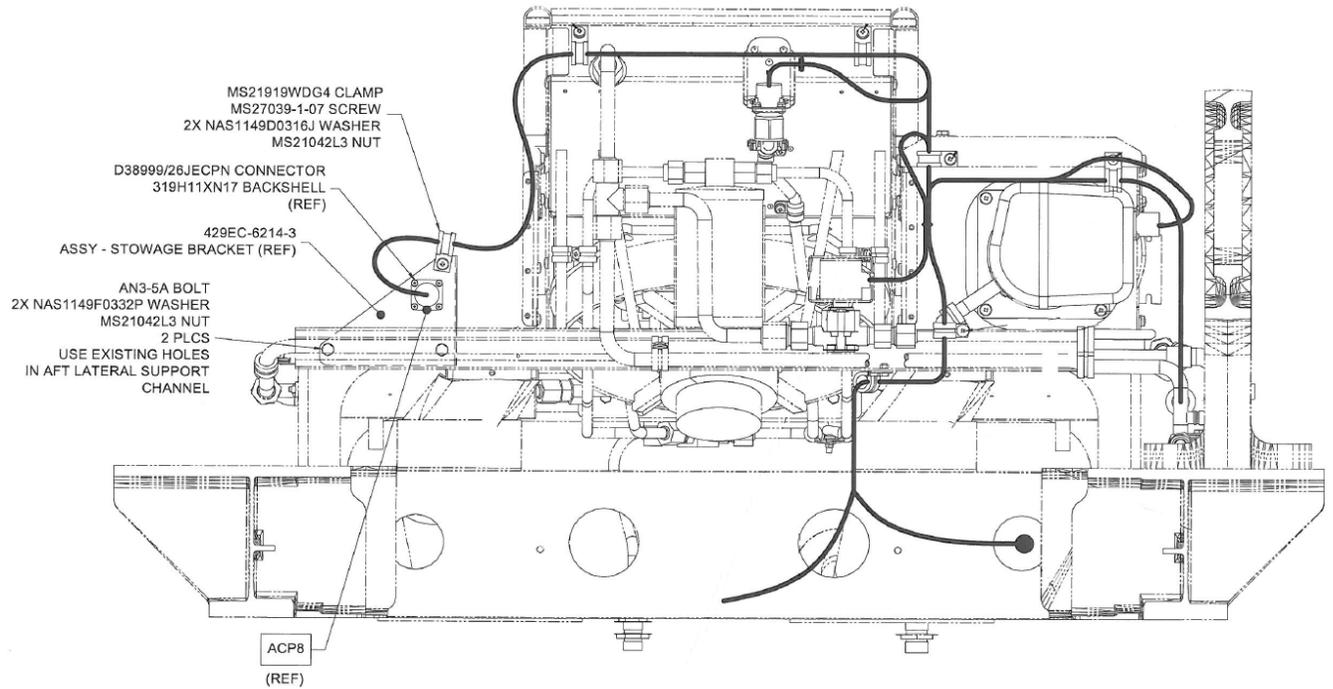

Figure 16: LH Aft Evap Connector ACP8 Stowage Bracket Details
7. Install Left Aft Evap Stowage Bracket 429EC-6214-3. See Figure 16. Plug ACP8 into Stowage Bracket and install MS21919WDG4 Clamp with MS27039-1-07 Screw and 2X NAS1149D0316J Washers.